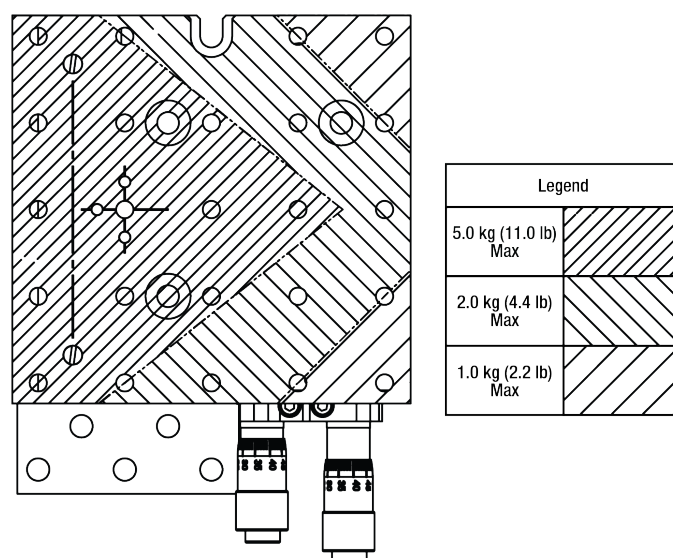
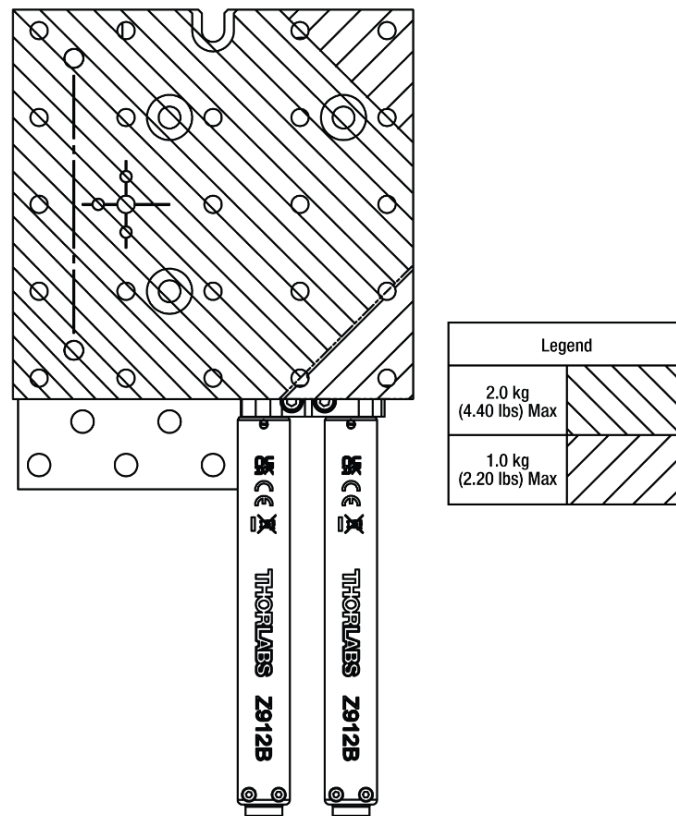

Figure 4 Spatial Load Specifications (Manual Stages)
Figure 5 **Spatial Load Specifications (with Z912B actuators)**
- The load capacity when the stage's base is mounted on a horizontal surface. The max load capacity is different at certain points of the platform. Refer to spatial drawings Figure 4 and Figure 5 for specific load capacity information.
- The Z912B(V) actuator could wear out after approximately 5000 cycles if used continuously at the max load
- a. The load capacity when the stage's base is mounted on a horizontal surface. The max load capacity is different at certain points of the platform. Refer to spatial drawings Figure 4 and Figure 5 for specific load capacity information.
- b. The Z912B(V) actuator could wear out after approximately 5000 cycles if used continuously at the max load.